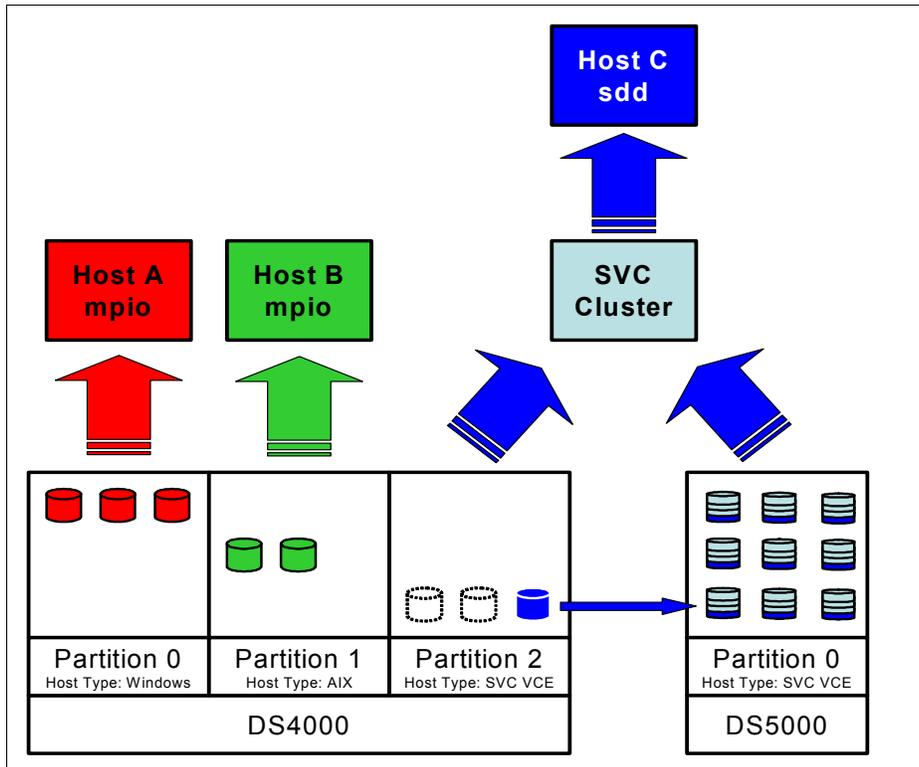

Figure 11-33 Migration - migration in progress
15. Start migrating data from DS4000 to DS5000 (see Figure 11-33):